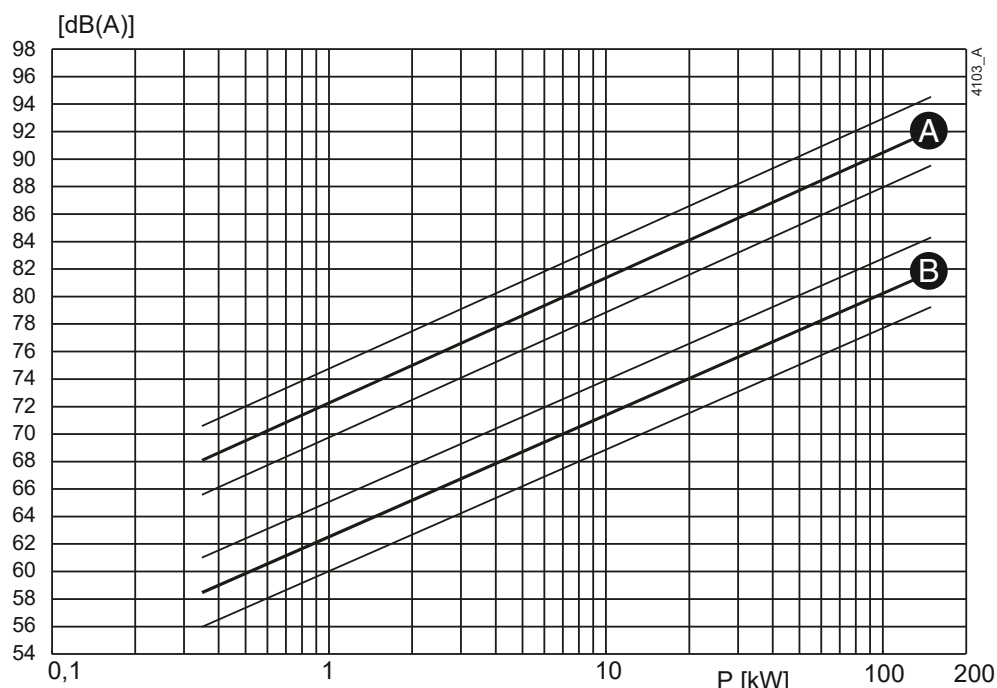
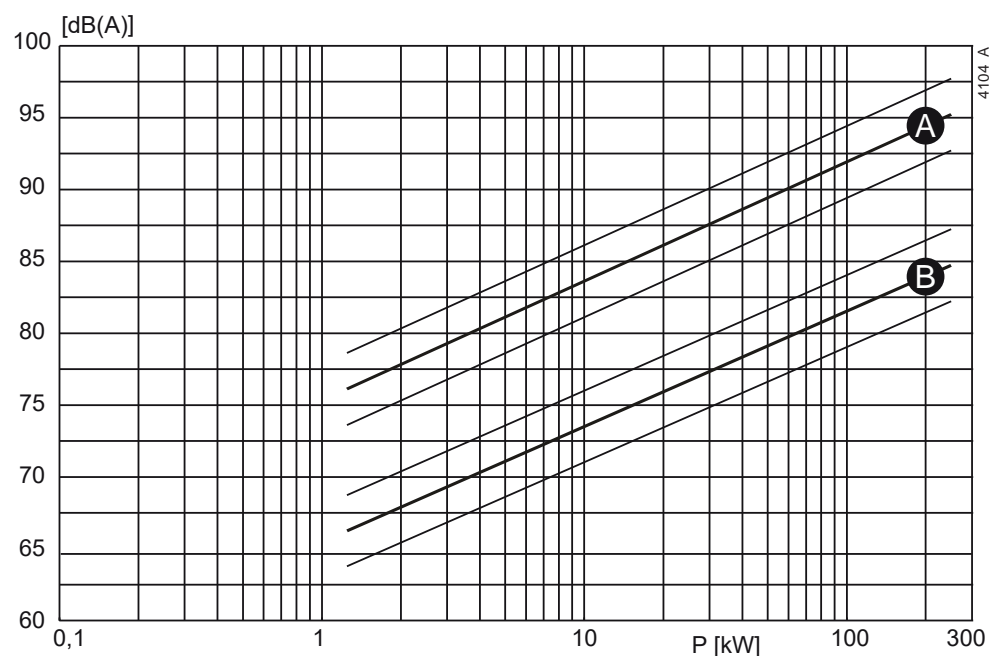

Figure 31: Noise level as function of pump power [kW] at  $1450 \text{ min}^{-1}$
Figure 32: Noise level as function of pump power [kW] at  $2900 \text{ min}^{-1}$
- 1 Determine the noise level ( $L_1$ ) of the pump, see figure 31 or figure 32.